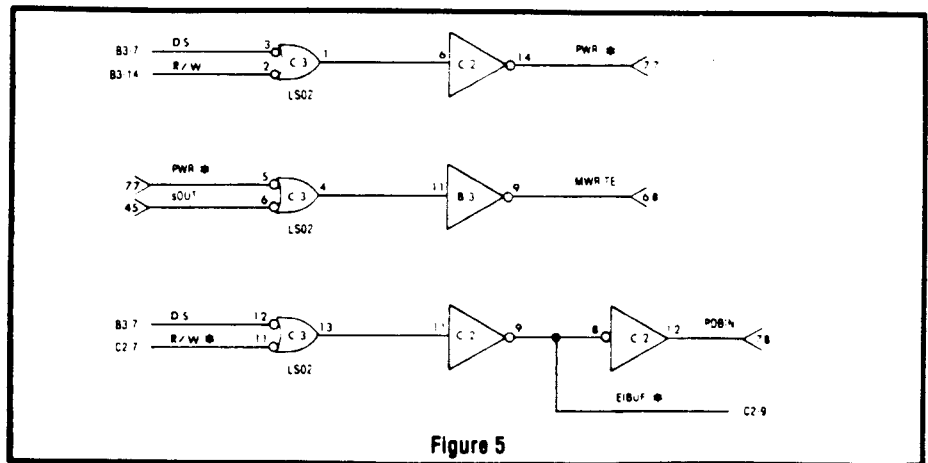
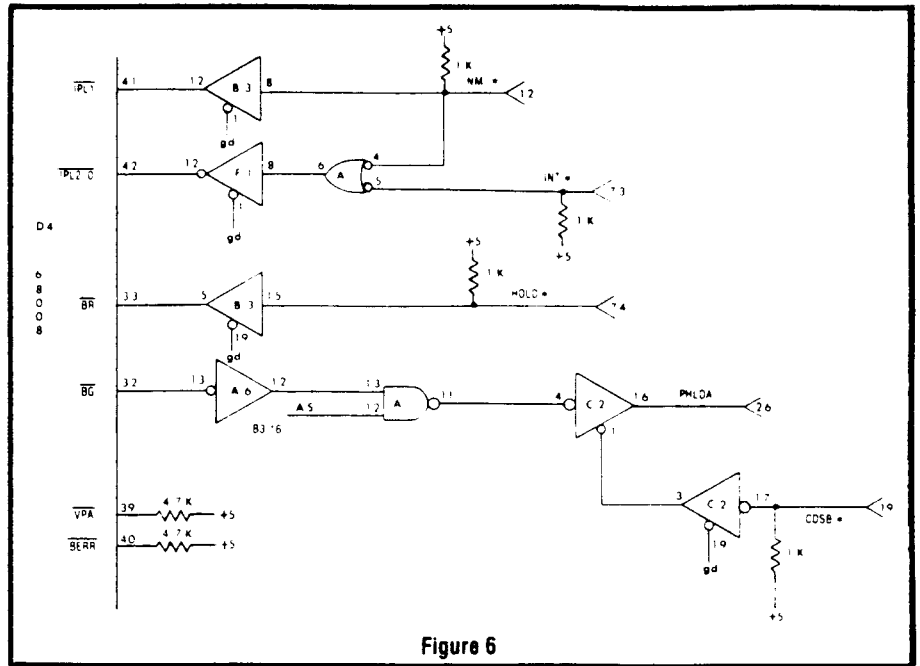

Figure 5
Figure 6
to D7 of the 68008. This LS244 is enabled by EIBUF which is asserted whenever both R and DS (see Figure 5) are asserted by the 68008.
**Control Lines PWR, PHLDA, PDBIN.** PWR (see Figure 5) is asserted whenever the 68008 asserts both DS and W. PDBIN (see Figure 5) is asserted whenever the 68008 asserts both DS and R. PHLDA (see Figure 6) is asserted whenever the 68008 asserts BG and negates (actually tristates) AS. The three control signals reach the S-100 bus with proper polarity by passing through one half an LS240. The half LS240 is enabled except when CDSB is asserted.
**Interrupts.** Assertion of NMI (see Figure 6) causes the 68008 to see a low at inputs IPL1 and IPL2/0 which it
Memory references to the upper 256 bytes i.e. to \$FFF00 to \$FFFFF assert SIO which results in the assertion of SINP or SOUT and the negation of SMEMR. Thus references to the I/O space are always slow. If a RAM or ROM board overlaps the I/O space, the overlap becomes write only to those boards that respond to PWR. The signal MWRITE (see Figure 5) is negated by references to the I/O space.